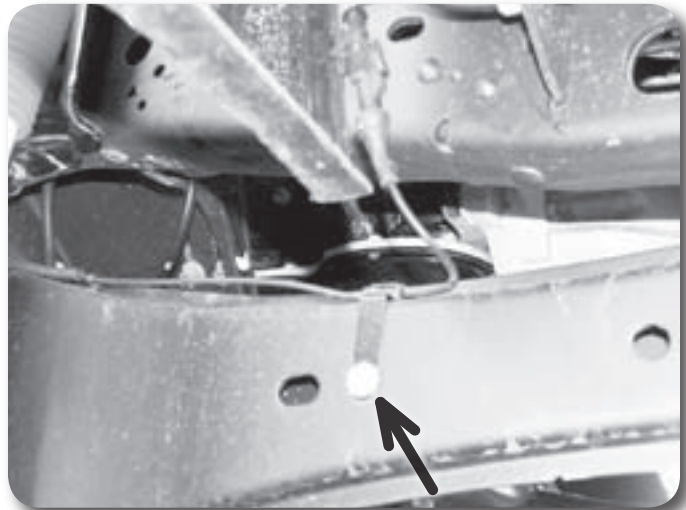
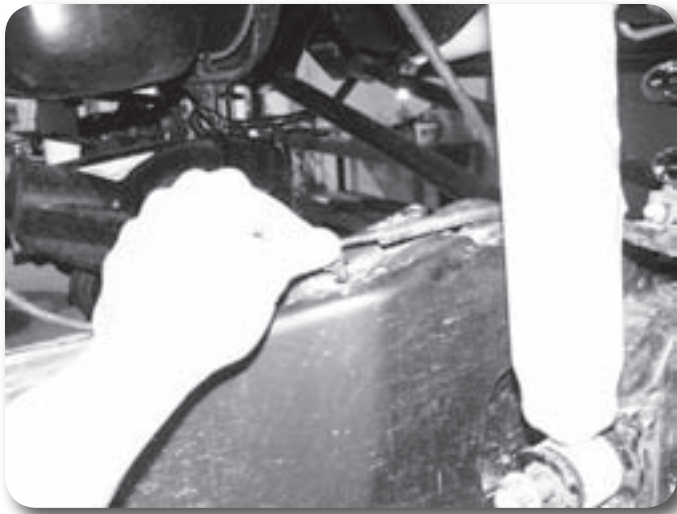

Figure 1
Figure 2
7. Remove the ABS line from the metal retaining tab on the radius arm (Fig 1). Pull the plastic retaining clip free from the radius arm (Fig 2).